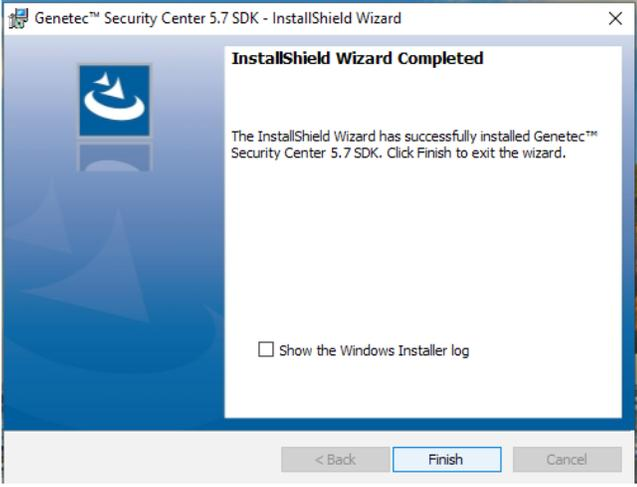

Figure 17
19. When the installation is complete, click Finish (Figure 17).